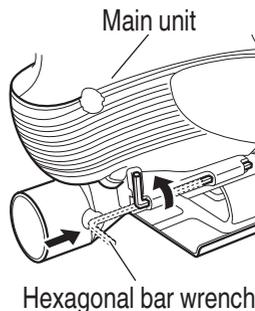

Fig. 2
- (1) Insert in a hole on the side of the main unit with holding the short side horizontally as shown in **Fig. 2**.
- (2) Rotate with the hexagonal bar wrench and secure as shown in **Fig. 2**.